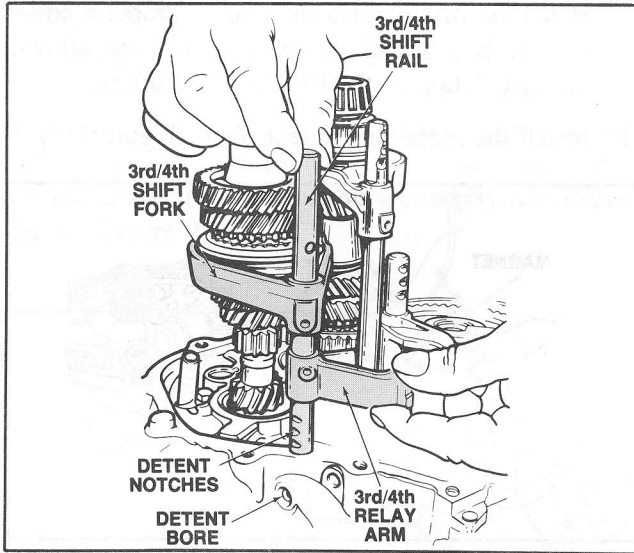

Figure 121 Relay Arm Installation
13. While holding the third/fourth relay arm in position, install the shift rail through the relay arm. (Figure 121).